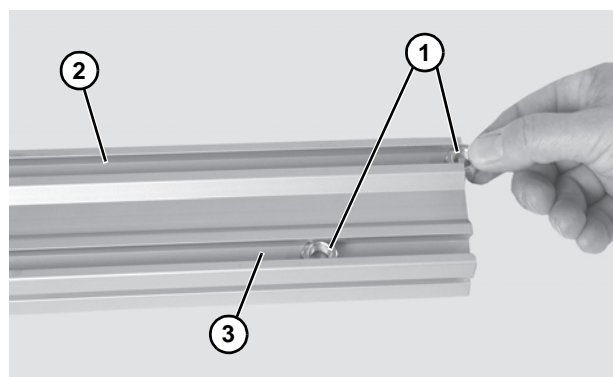

Figure 3
3. Install one (1) hex nut (**Figure 3, item 1**) into each crossmember (**Figure 3, item 2**) t-slot (**Figure 3, item 3**).